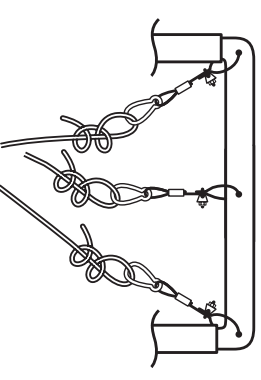

Figure 1
3. After hanging the net on the middle frame sections, making sure that it does not sag more than 1-2', pull the ropes towards the end frames to stretch it out. Attach each rope to the end frame sections with the corresponding hanging-loop assemblies. **See Figure 1.**